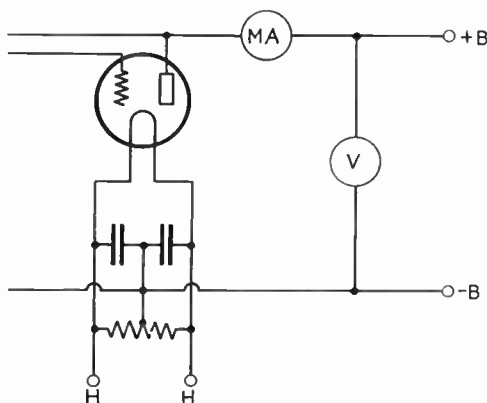

FIG. 280. Connection of meters to measure power input to oscillator.
Step 2. Measure the plate voltage with a high-resistance voltmeter. See Fig. 280 for its connection in the circuit.
2. When connected as shown in Fig. 280, does the milliammeter measure the current taken by the voltmeter?